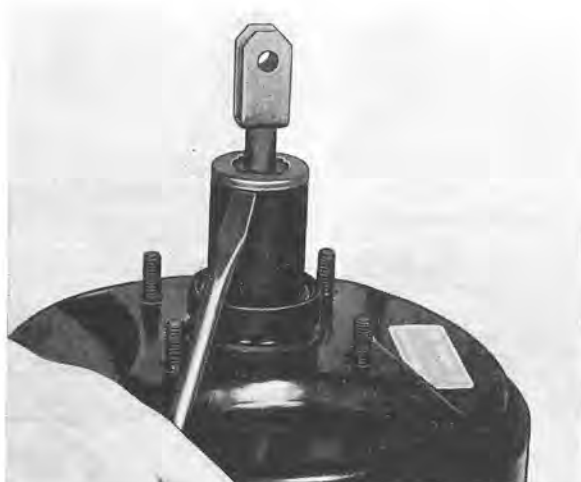

Fig. 5-73. Removing washer
6. Remove the protective washer, see Fig. 5-73, from the cylinder.